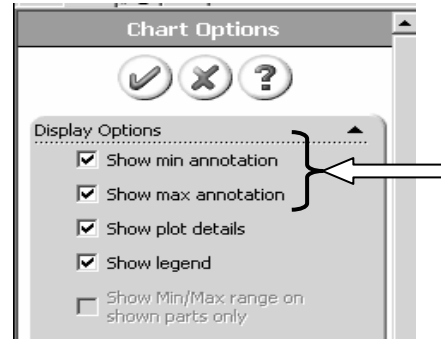

Figure 17 – Upper portion of **Chart Options** property manager showing current selections.
3. Right-click **Plot1 (-vonMises-)** and from the pull-down menu select **Chart Options**. The **Chart Options** property manager opens as shown in Fig. 17.